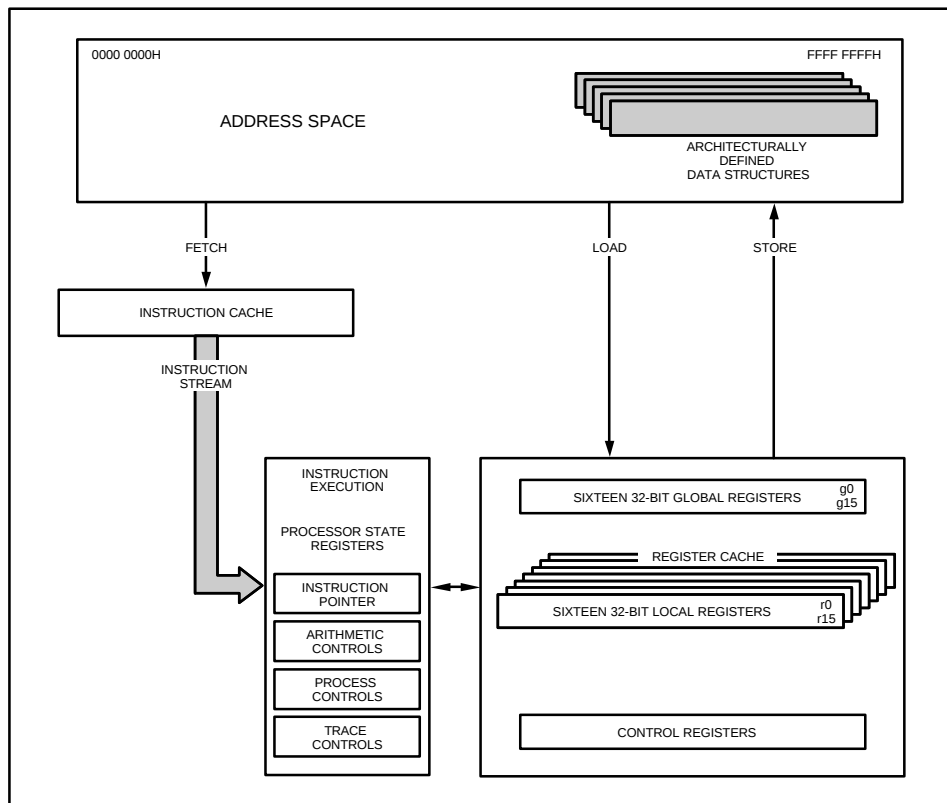

Figure 2. 80960KA Programming Environment
| 1.1.1. Memory Space And Addressing Modes .. | 4         | Figure 2.      | 80960KA Programming Environment ..... 1                            |
**1. Large Register Set.** Having a large number of registers reduces the number of times that a processor needs to access memory. Modern compilers can take advantage of this feature to optimize execution speed. For maximum flexibility, the 80960KA provides thirty-two 32-bit registers. (See Figure 2.)